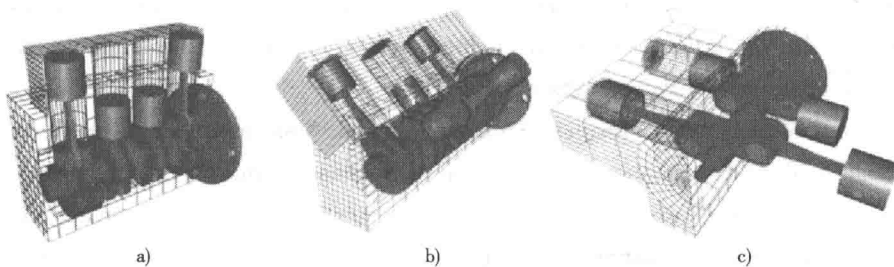

Figure 1-5 The Arrangement of Cylinders
The core of the engine is the cylinder, with the piston moving up and down inside the cylinder. The engine described above has one cylinder. That is typical of most lawn mowers, but most cars have more than one cylinder (four, six and eight cylinders are common). In a multi-cylinder engine, the cylinders usually are arranged in one of three ways: inline, V or flat (also known as horizontally opposed or boxer)^② (shown as Figure 1-5).